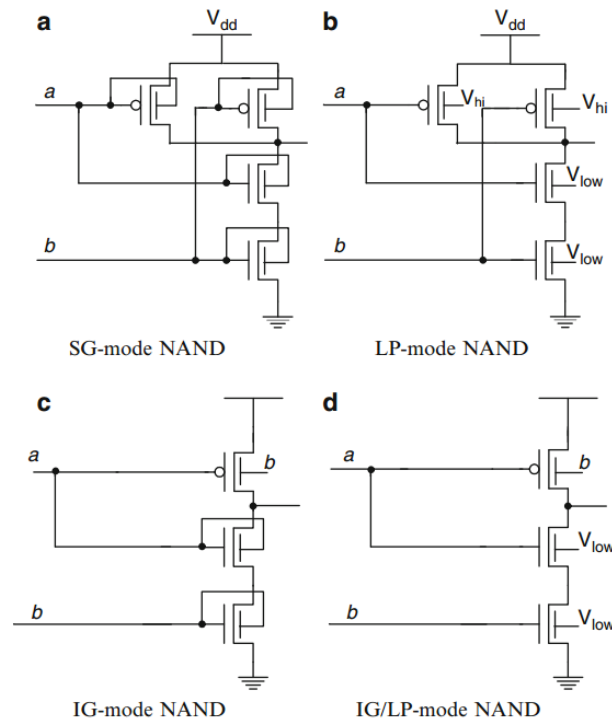

Fig 2. Different FinFET-based NAND gate designs
Figure 2 shows the implementation of a two-input NAND gate in each of the above modes. A hybrid IG/LP-mode NAND gate, which employs a combination of LP and IG modes is also presented. Similarly, other Boolean functions can be implemented in CMOS styles in each of the above-mentioned modes. ( $V_{hi}$  and  $V_{low}$  are the corresponding reverse-bias voltages.)
- Based on the 4 different 1X NAND gate designs in Figure 2, draw 4 1X NOR gate designs using the same number of fins. Compare the following items: